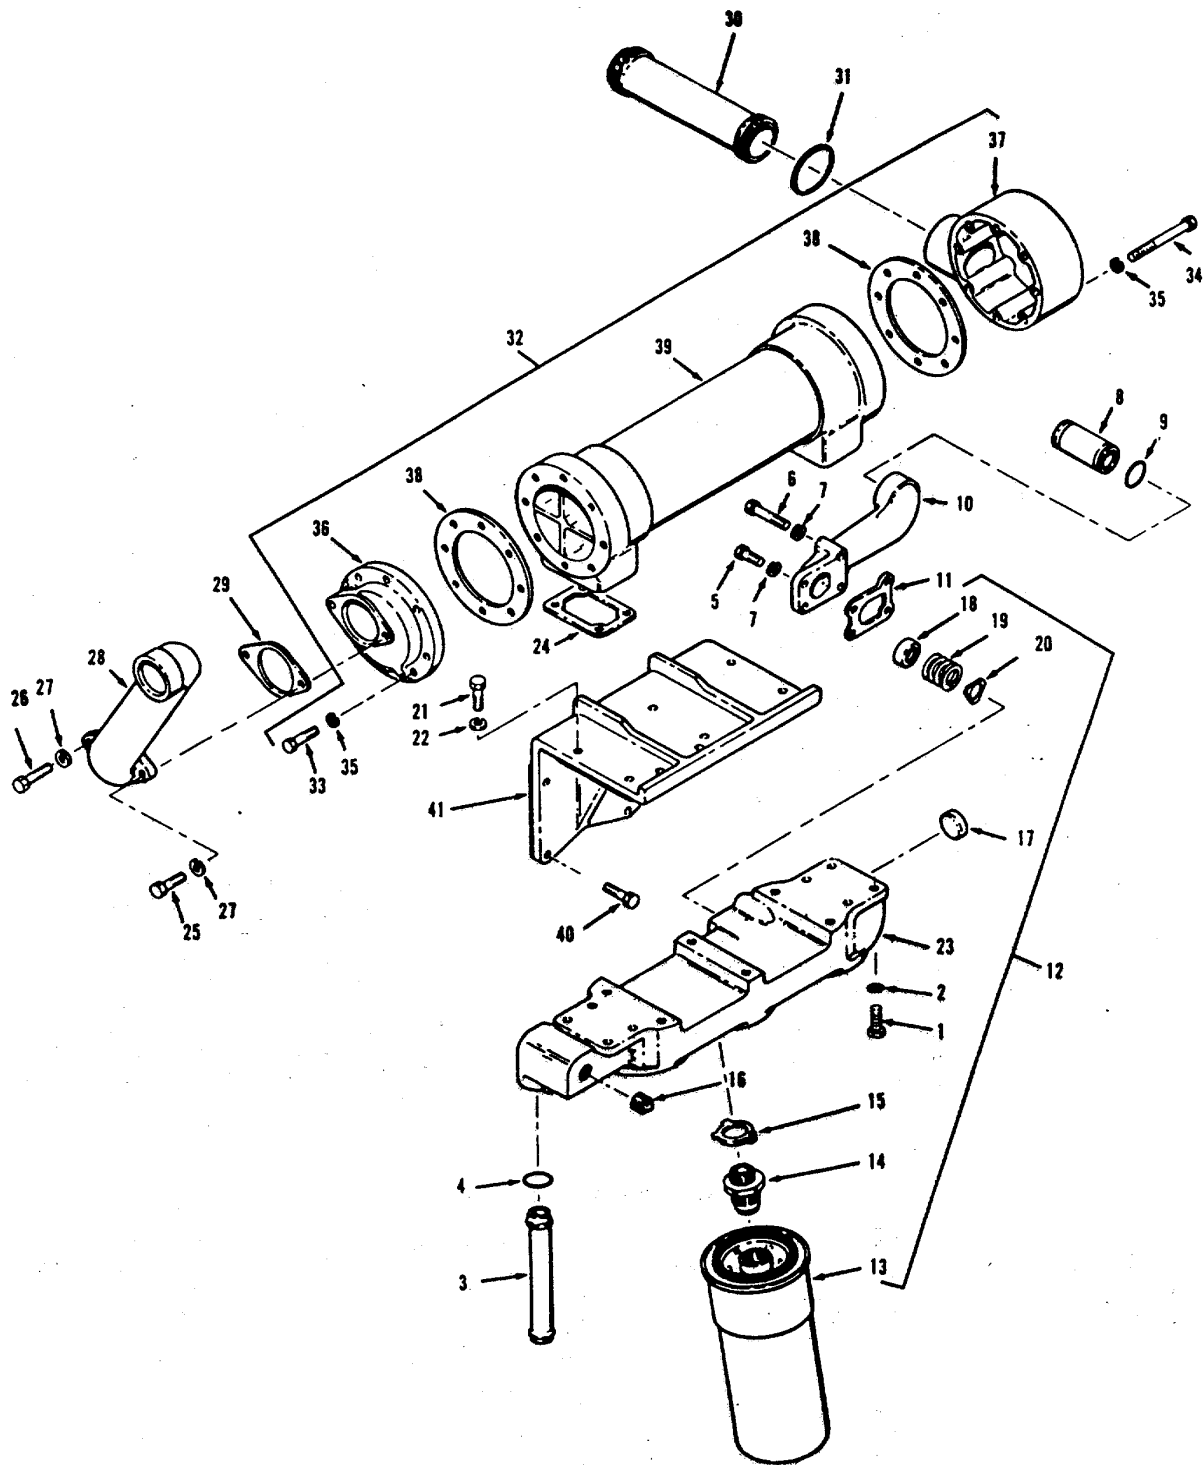

Figure 13-14. Lubricating Oil Cooler, Exploded View, Code A
13-11. LUBRICATING OIL COOLER. To test and repair the lubricating oil cooler, refer to figure 13-14 and 13-15 and proceed as follows:
- (4) Inspect for air leaks and porosity in castings.
- (5) Apply 35 to 45 psi (241 to 176 kPa) to oil side.
- (6) Inspect for air leaks and porosity in castings.
- b. Repair and Reassembly. To repair the lubricating oil cooler, refer to figure 13-14, and proceed as follows:
- (1) Remove screws (33), cover (36), and gasket (38). Then remove screws (26), washer (27), screw (25), connection (28) and gasket (29).
13-12. BYPASS VALVE. To inspect, test, replace, and repair the lubricating oil filter bypass (relief) valve, refer to figure 13-14, and proceed as follows:
LEGEND FOR FIGURE 13-14